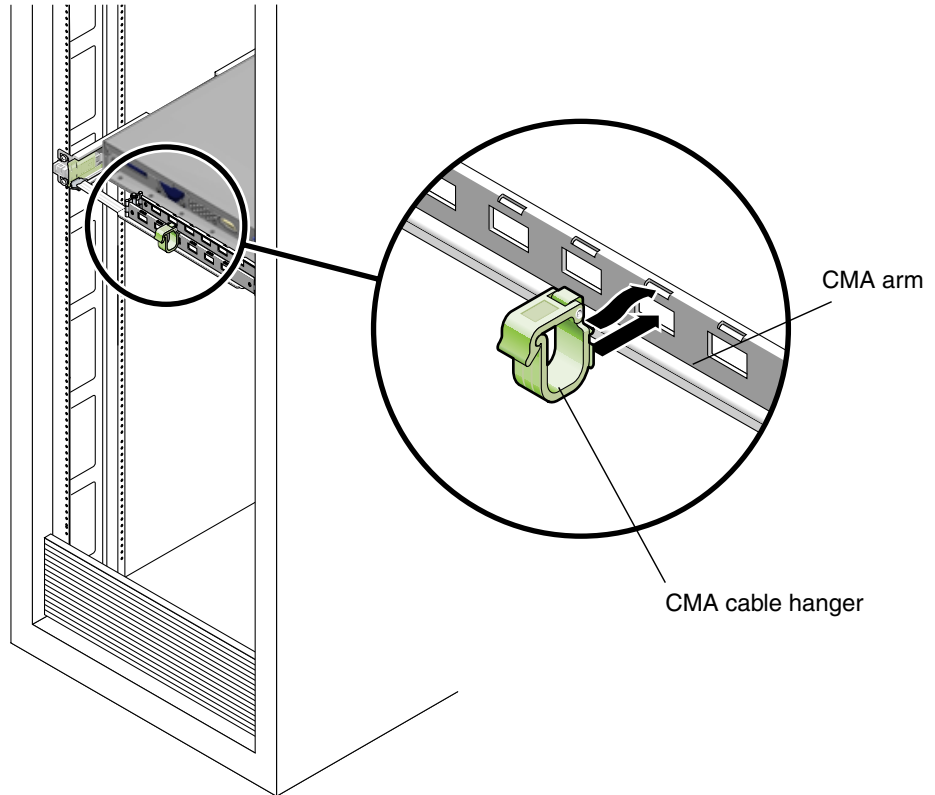

FIGURE 1-13 Installing CMA Cable Hangers
8. Position the cable hangers in the appropriate mounting holes in the CMA and snap them into place. (See FIGURE 1-13.)